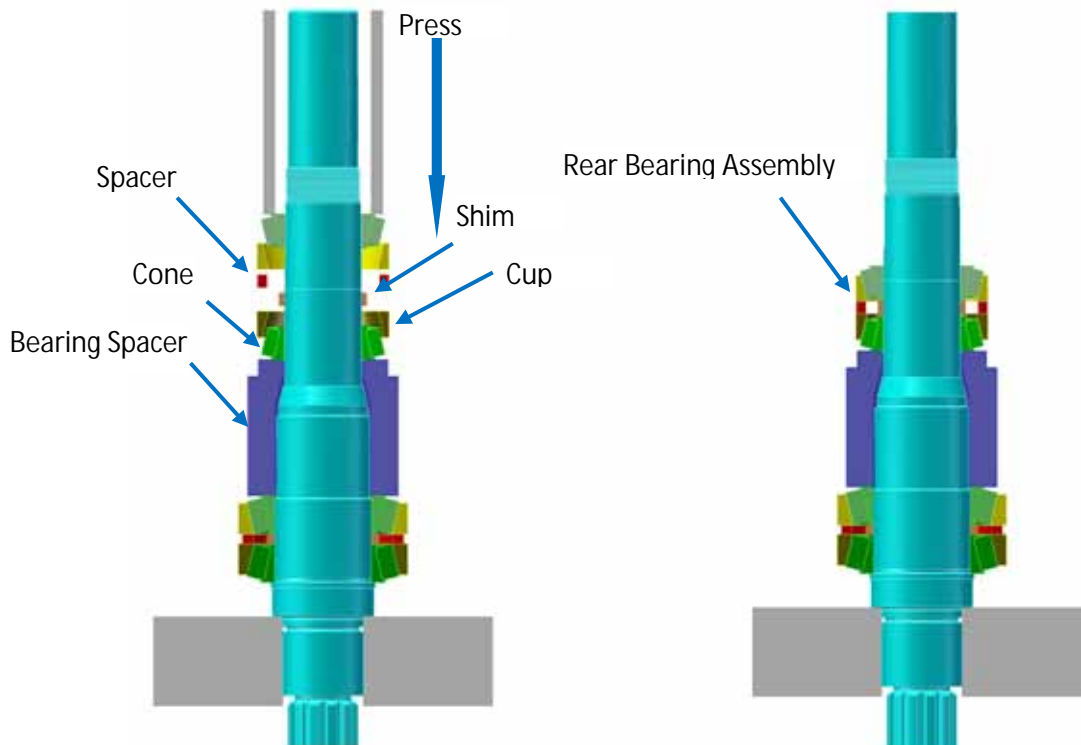

Figure 58 –Pressing Upper Bearing Assembly onto Shaft
2. Open the new rear bearing assembly. Repeat process described above in steps 3 - 9, Figure 58.